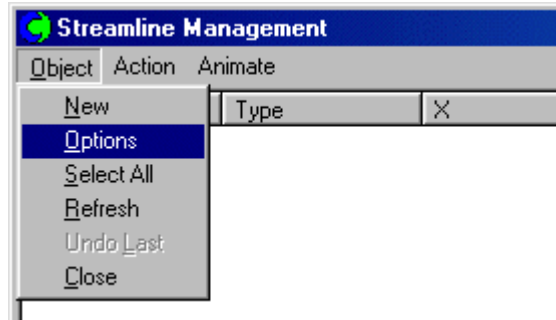
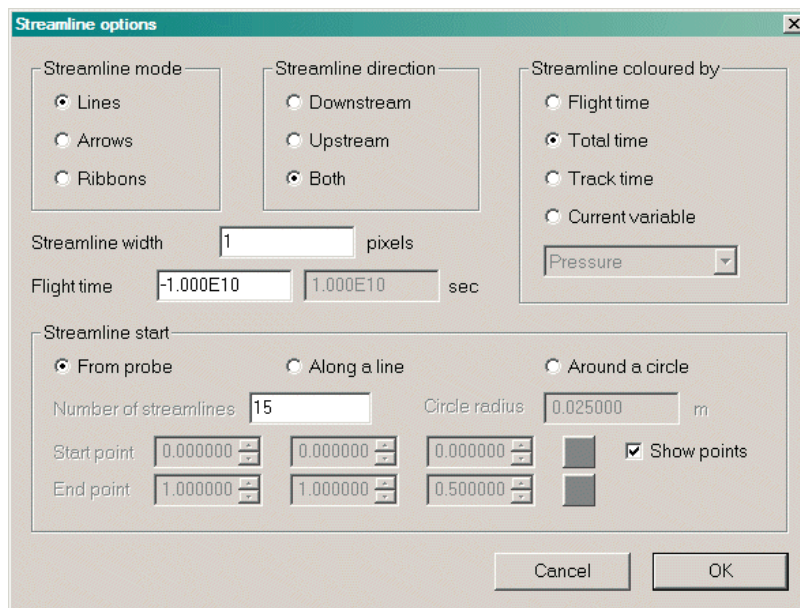

Figure 2.20 The Streamline management dialog
Figure 2.21 Stream Options dialog box
- To display streamlines, move the probe nearer to the opening, around $X = 1.62$, $Y = 4.92$ and $Z = 1.96$. Left-click on the 'Streamline management' button,  to bring up the Streamline management dialog box. Select 'Object' and 'Options', as shown in figure 2.20, will bring up the 'Stream Options' dialog box shown in figure 2.21.